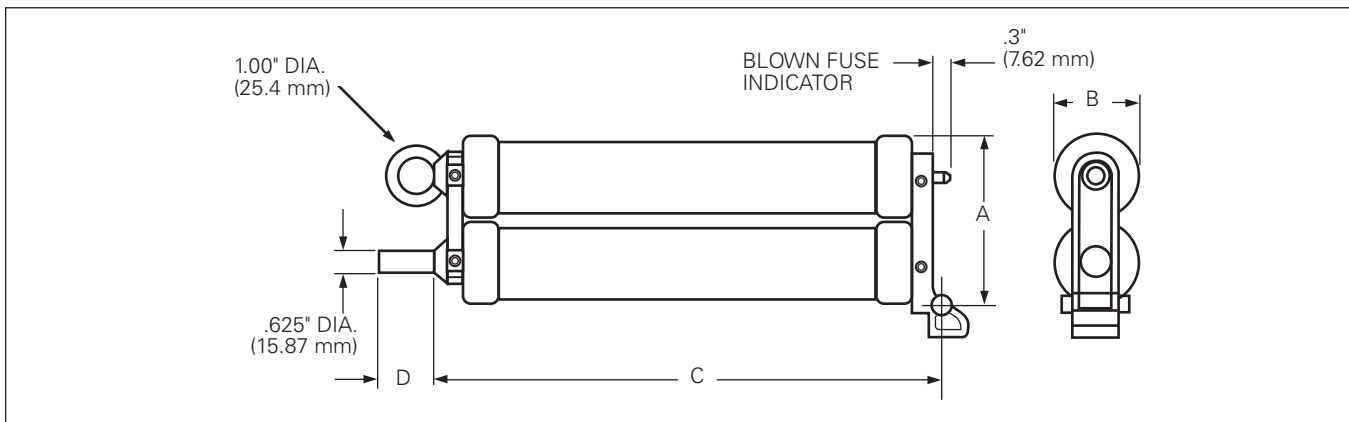

**Figure 2. X-Limiter full-range current-limiting clip-style fuse dimensions. (See table 1 for dimensions)**
**Table 1. X-Limiter clip-style fuse dimensional information (see figure 2 for dimensional drawings.)**